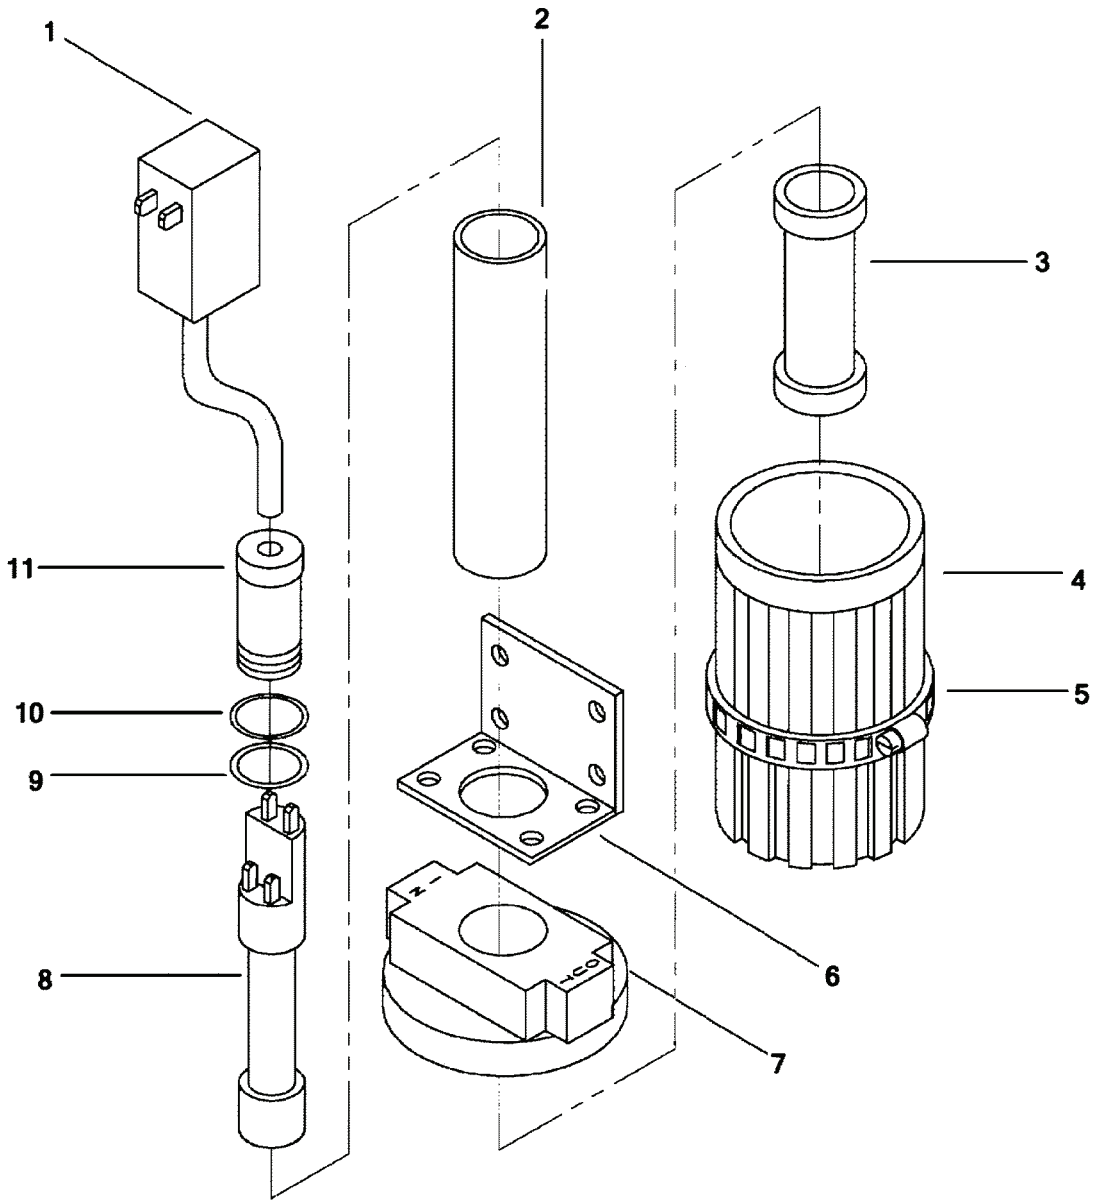

Figure 2-8. Ultraviolet (UV) Sterilizer.
2-15. Ultraviolet (UV) Sterilizer. (Figure 2-8)